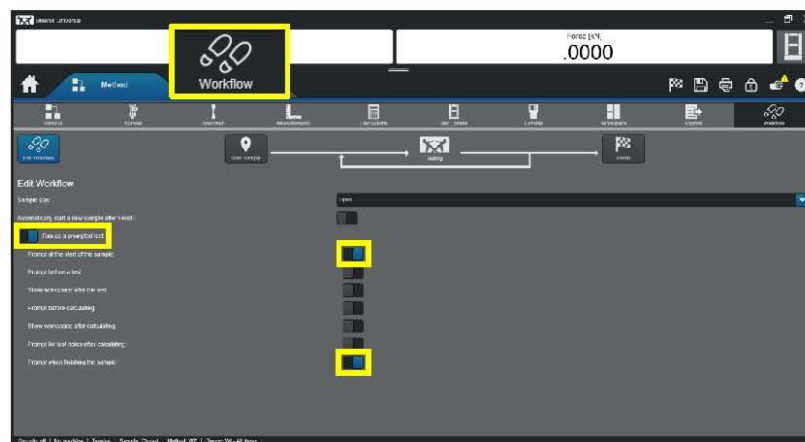

Fig 21 Workflow data
6.1.22. The workflow topic. Click  in Run as a prompted test and select follow Fig 21